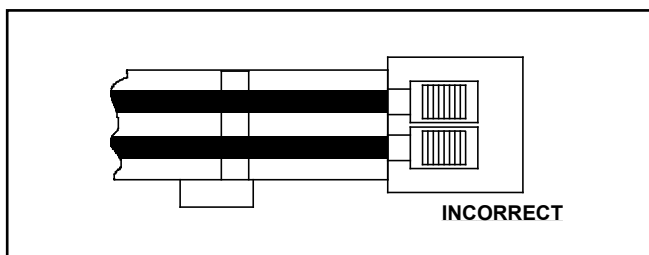

FIGURE 3.1.9 PLACEMENT: DOUBLE BLOWER REQUIREMENTS
13. Never install a heater near a double blower outlet. A heater must be installed far enough away from a double blower outlet that even and proper airflow is present or separate duct heaters placed in the duct runouts of each blower. (all installation must conform with the heater installation instructions.) (see Figure 3.1.9)